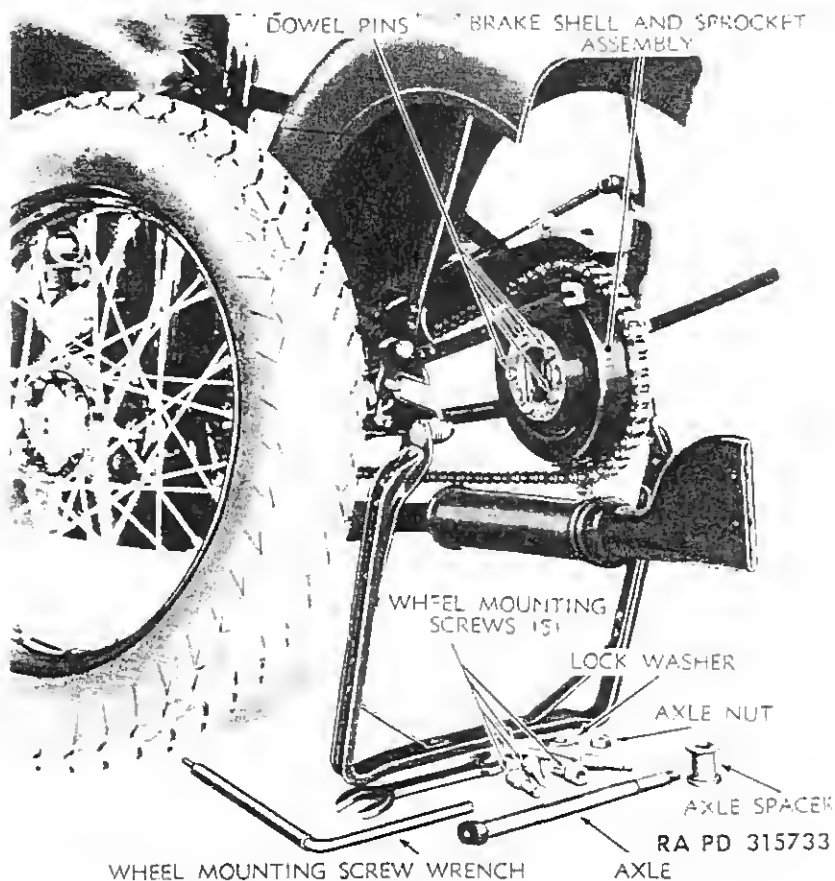

Figure 83—Disassembly for Rear Wheel Removal
127. REAR WHEEL REPLACEMENT (figs. 83 and 84).
(6) Pull out axle from left side of vehicle.
(7) Remove spacer from between wheel hub end and left side of frame.
(8) Wheel is now free to come out by pulling and working it away from dowel pins located in brake shell assembly. A wheel being removed for the first time may offer some resistance. It will be observed that chain, sprocket, and brake assembly remain in the vehicle frame.
b. Install (figs. 83 and 84).
(1) Position wheel on brake shell dowel pins. Work hub onto dowels as far as it will go.
(2) Install axle spacer at left end of hub so that axle will pass through it and the hub.
(3) Install axle from left side of vehicle. Pass it through sleeve and hub, with end of axle engaging the frame left axle clip notch.